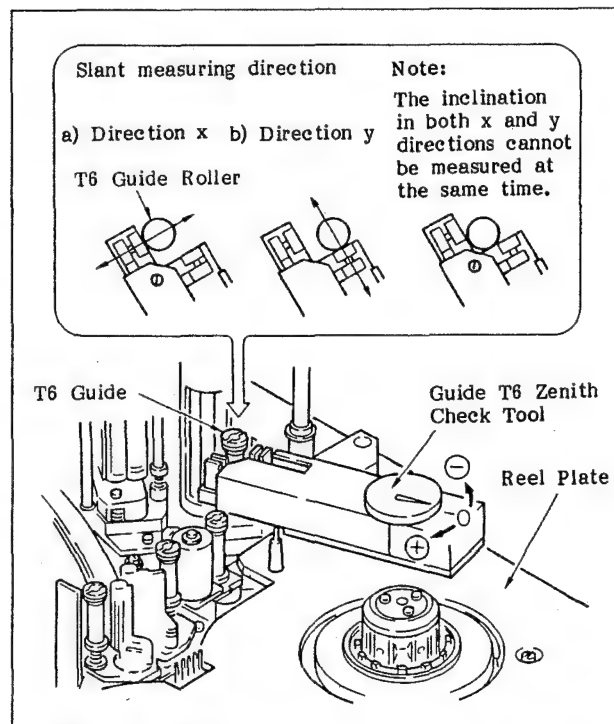

Fig. 6-79 Check the Inclination of the T6 Guide
15. Measure the inclinations of the T6 guide in the x and y directions by referring to Figure 6-79. Check that the differences between the values measured here and the values measured in step 9 are within $\pm 5\mu\text{m}$.